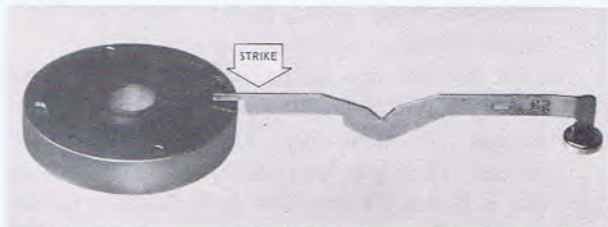
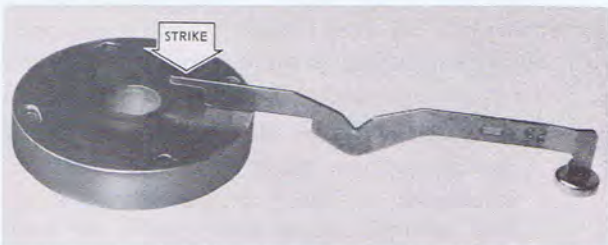

FIGURE 63
FIGURE 64
- (3) If the touch of an individual keylever is light or heavy, that keylever can be adjusted without affecting any of the other keylevers. Before adjusting individual keylevers, check the fulcrum pivot points for wear (See Adjustment 9b(2)). To adjust, first remove the keylever from the machine. If the touch is light, bend the tip of the keylever down to retard the escapement release. Place the tip of the keylever on a type block (or other steel block) and strike the shank of the lever just before the tip (Figure 63). If the touch is heavy, place the shank on the block and strike the tip (Figure 64) to bend it up to advance the escapement release.